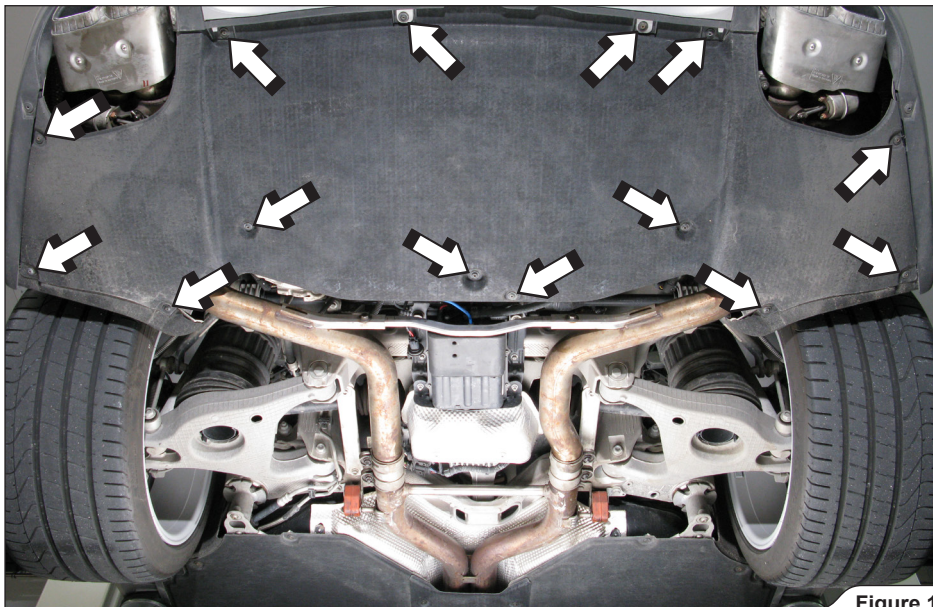

Figure 1
1. **For all vehicle models:** unscrew the marked bolts and nuts on both sides of the vehicle and remove the chassis panels off the vehicle (**Figure 1, 2, 3**).